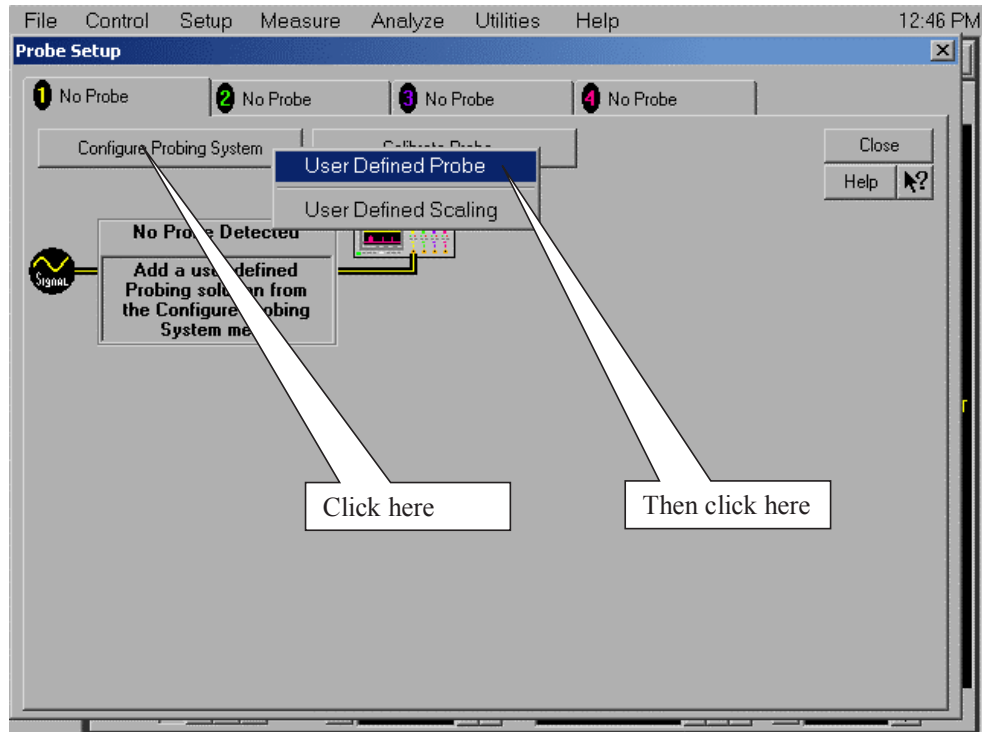

Figure 112 Probe Setup Window.
- 3 Referring to Figure 112 below, perform the following steps: